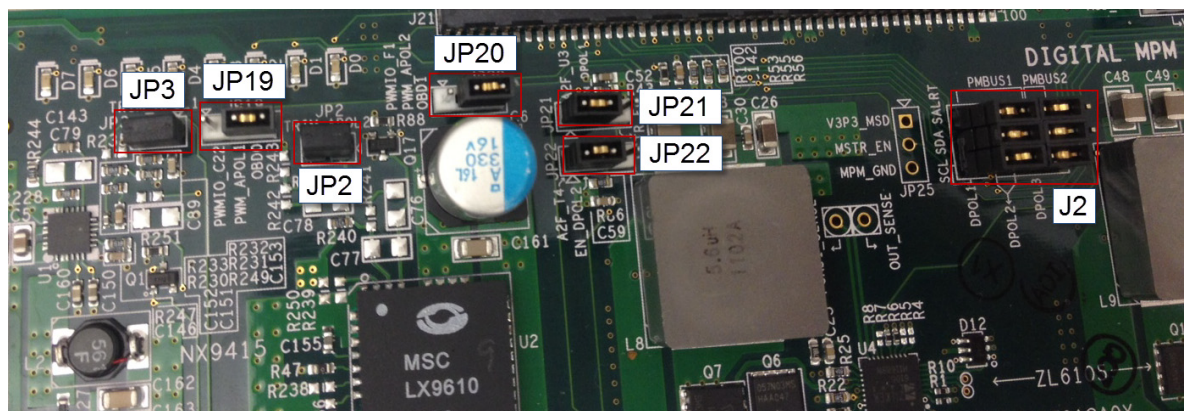

Figure 10 · Jumpers
1. JP2 and JP3 on the green DMPM daughter card should be in place (Figure 10 on page 12).